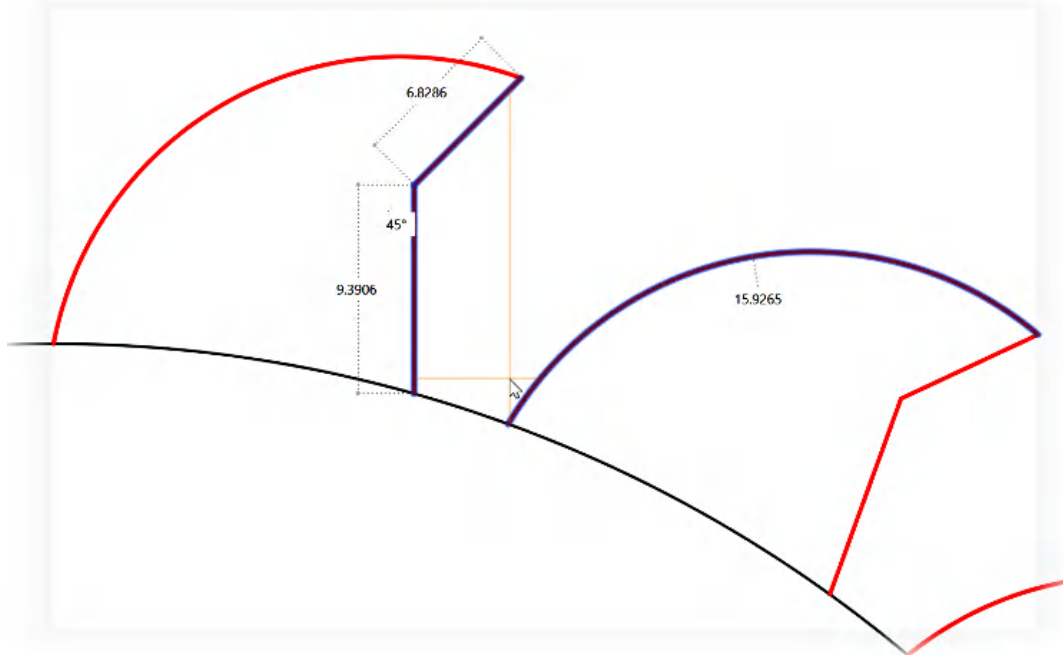

Figure 6.4: Measured geometry shown highlighted by Quick Measure
3. Move the cursor around the sawblade in the drawing file. You will see numerous measurements shown, including angles, as shown in *Figure 6.4*.